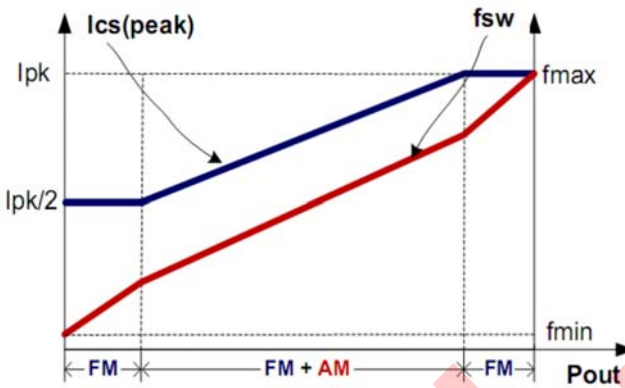

Fig.4
To meet the tight requirement of averaged system efficiency and no load power consumption, a hybrid of frequency modulation (FM) and amplitude modulation (AM) is adopted in U6217 which is shown in the Fig 4.